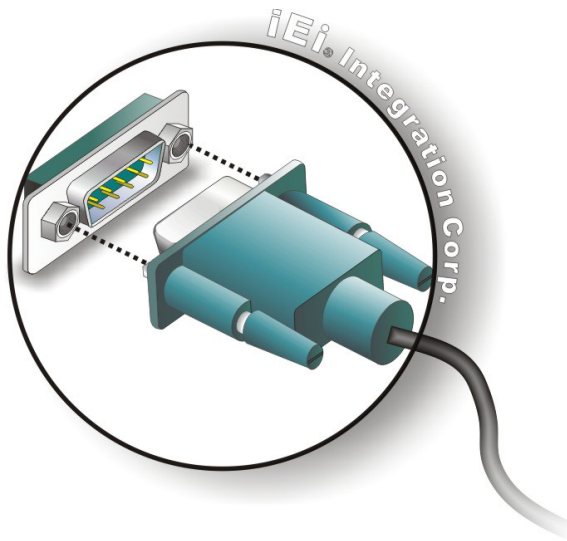

Figure 3-19: Serial Device Connector
Step 2: Insert the serial connector. Insert the DB-9 connector of a serial device into the DB-9 connector on the external peripheral interface. See **Figure 3-19**.